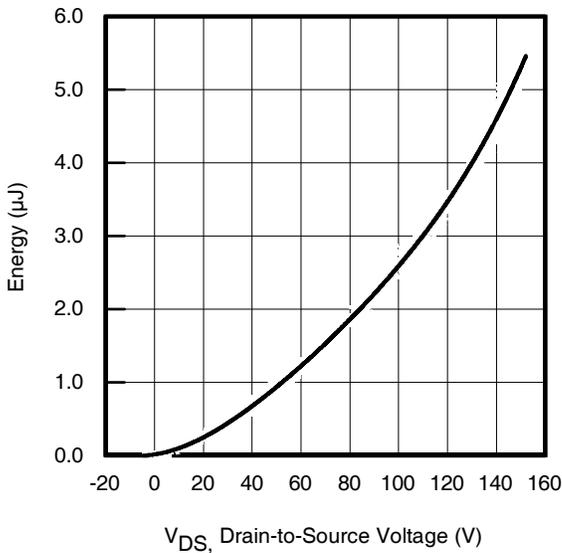

Fig 11. Typical C_{OSS} Stored Energy
| C _{oss} eff. (ER) | Effective Output Capacitance (Energy Related) | — | 460 | — | | V _{GS} = 0V, V _{DS} = 0V to 120V ^⑦ , See Fig. 11 |